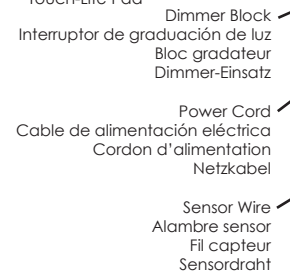

FIGURE 4
- a) Remove the Dimmer Block, Power Cord and Sensor Wire from the plastic bag, usually located on top of the cabinet. (Figure 4)